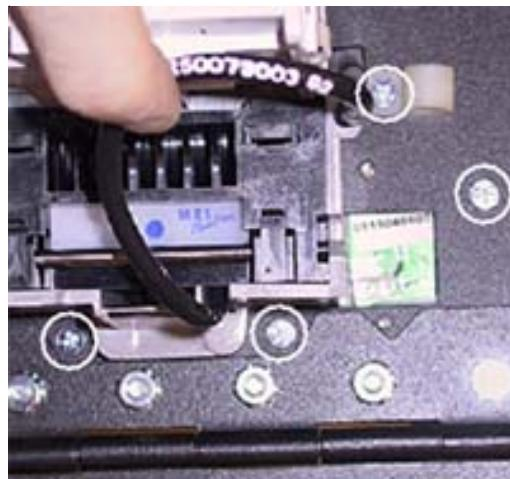

FIGURE 3 - SCREWS FASTENING SMALL BILL ACCEPTOR NOSE TO MOUNTING PLATE
5. Remove the screws securing the bill acceptor nose to the front of the game (4 screws for small-nosed games; 2 for large-nosed ones). See Figure 3 for small-nosed games, Figure 4 for large-nosed games. **NOTE: To provide more room to access the screw locations, it may be helpful to remove the joystick assembly from the front of the game. To do so, carefully lay the game down in order to access the circular anti-skid pad at its base. Remove the screws securing the joystick assembly beneath the anti-skid circle (2 screws for small-nosed games; 3 for large-nosed ones) and return the game to its upright position. Save the screws for reinstallation.**